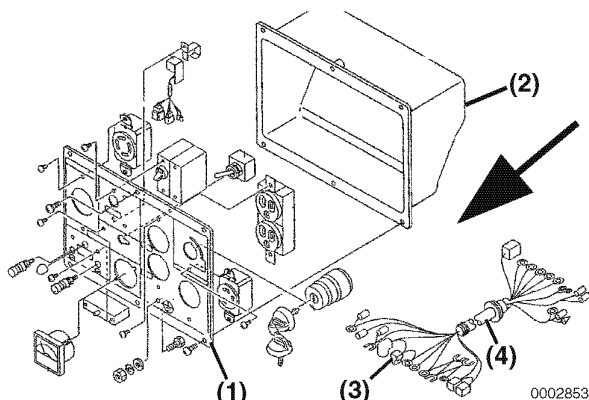

Figure 7-43
8. Remove the control panel (**Figure 7-43, (1)**) from panel box (**Figure 7-43, (2)**).
1. Pull all wiring harnesses (**Figure 7-43, (4)**) through the panel box (**Figure 7-43, (2)**) just far enough in the direction of the arrow enough to allow access to the rear of the panel (**Figure 7-43, (1)**) to disconnect the electrical components (**Figure 7-43, (3)**).